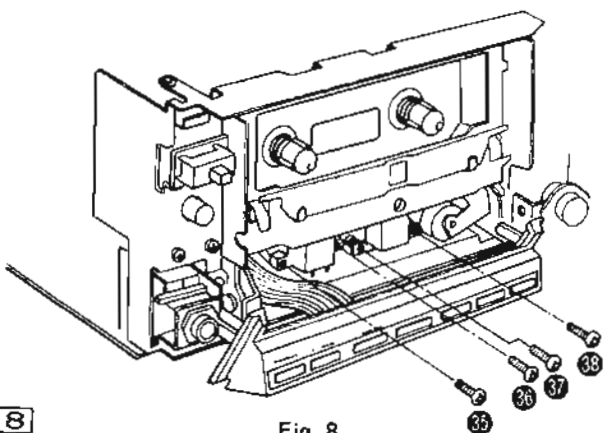

Fig. 8
3. To remove the erase head, remove the setscrews 35 and 36 of Fig. 8.
4. To remove the record/playback head, remove the setscrews 37, and 38 of Fig. 8. (Setscrew 37 is an azimuth screw.)